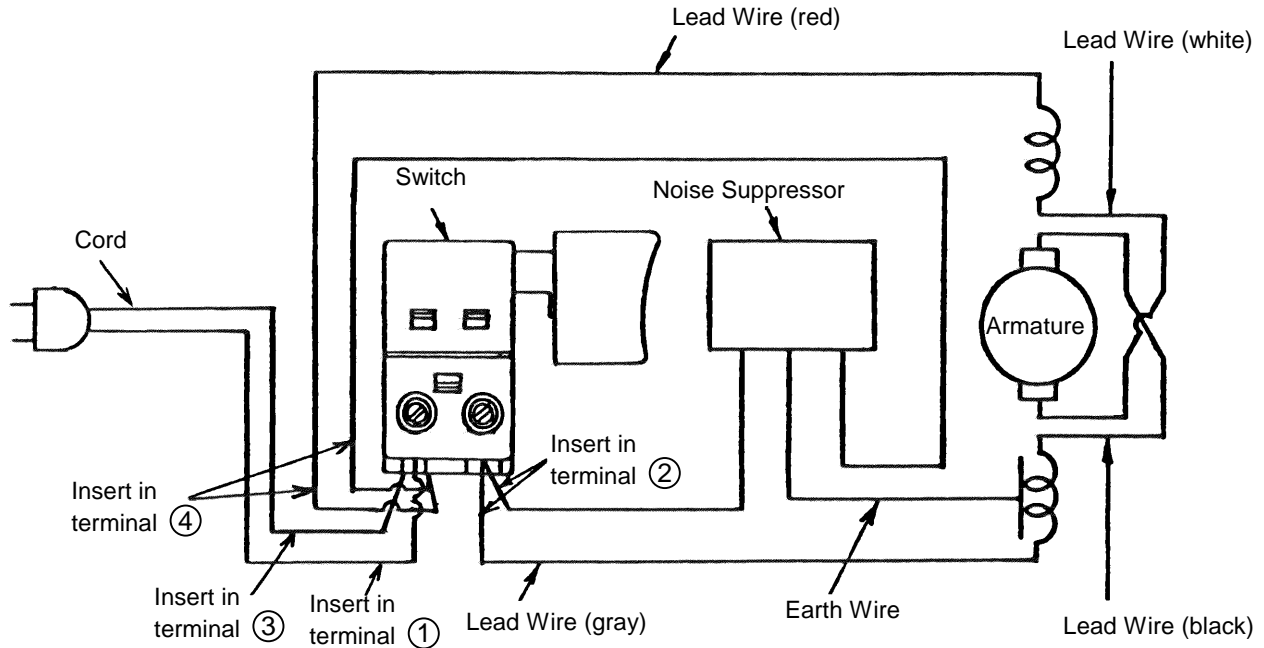

Fig. 15
1-4-2. For Units without a 50091 Connector (21), refer to Figs. 15 and 16.